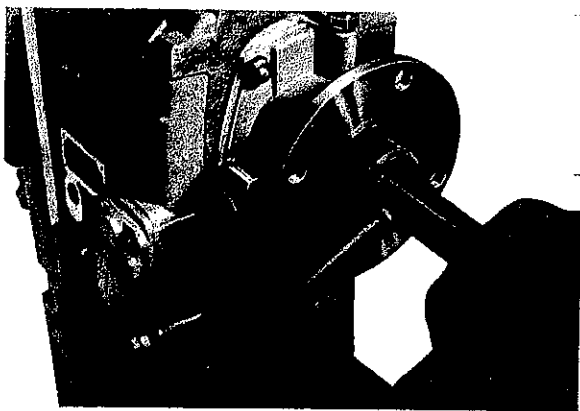

Fig. 2
- 4.1 Engage two speeds. Loosen slot nut (434) with slot nut wrench .2. (Fig. 2) and pull drive flange from shaft.